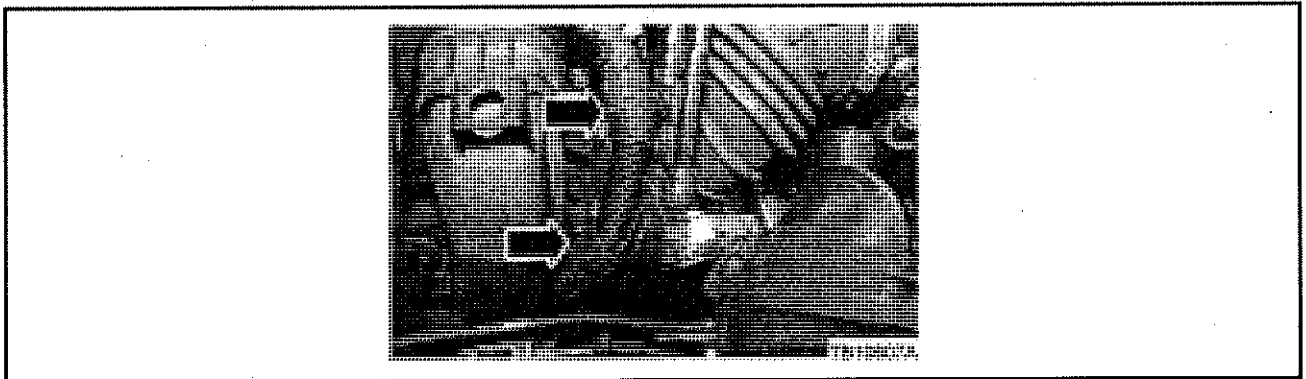

Figure 2 - Article 15-0036
- a. Obtain a 15 cm (6 in) length piece of 22 mm (7/8 in) diameter flexible nylon split loom convolute and 3M™ cloth friction tape or equivalent. Secure the convolute to the engine wire harness. Cloth friction tape must be applied in the location where the harness crosses the intake manifold near the throttle body and also to secure the convolute to the wire harness. (Figure 2)